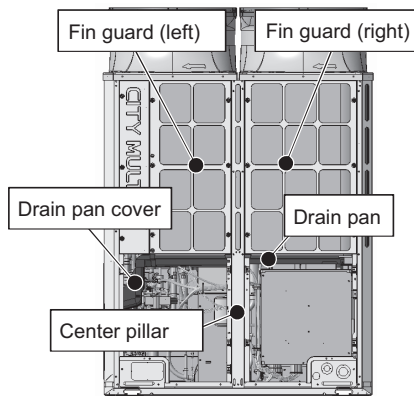

Figure 2
- (2) Remove the fin guard and the center pillar by unscrewing the 11 screws shown in Figure 2.
Remove the cable straps from the center pillar. (See Figure 2.)